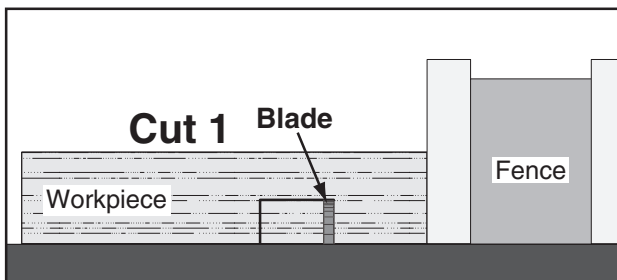

Figure 80. First cut for a single-blade dado.
6. Align the blade to cut one of the dado sides, as shown in **Figure 80**.